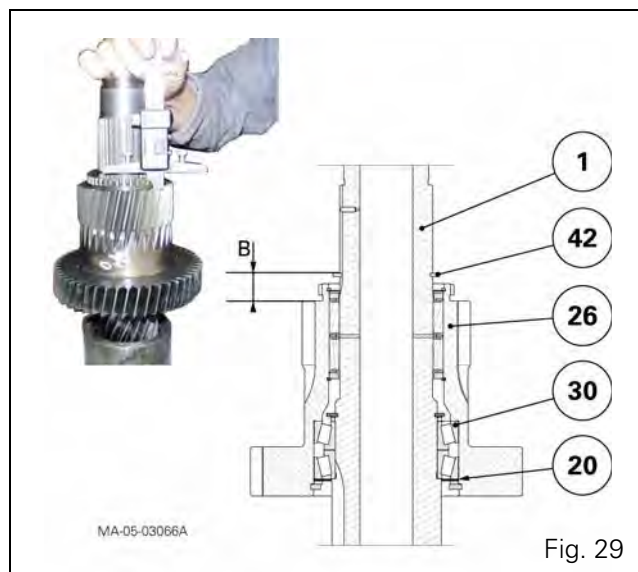

Fig. 29
81. Fit the circlip (42) holding the synchroniser in position (60) (Fig. 29).
82. Using a depth gauge, measure distance B between the mating face of the synchroniser (60) on the circlip (42) and the mating face of the pinion (26) (Fig. 29).